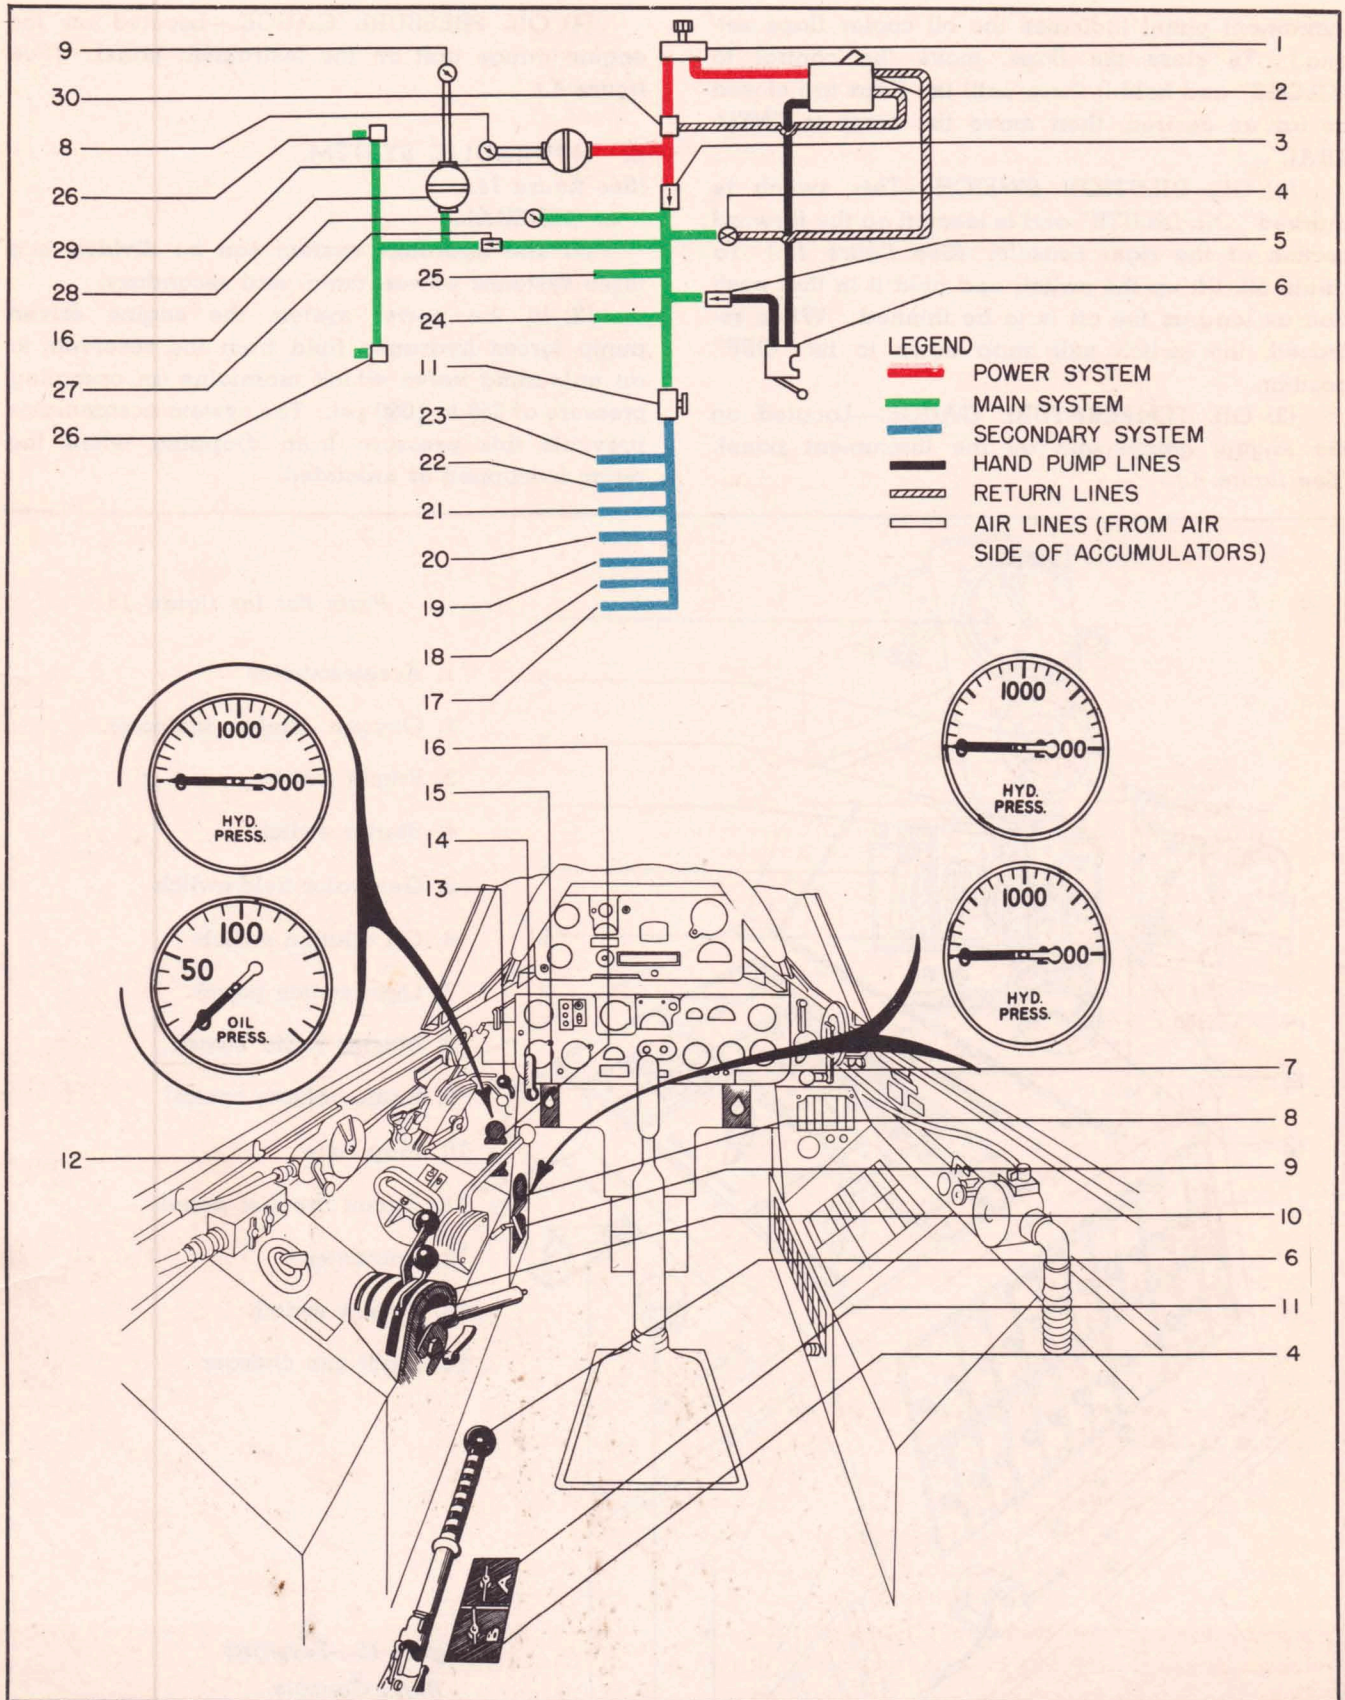

Figure 14—Hydraulic System Diagram
Parts list for figure 14.
(See figure 14.)
(1) **SHUT-OFF VALVE.**—The valve on the pilot's floor left of the seat, marked "A", is the shut-off valve (see figure 14), used to isolate the secondary system from the main and power systems. This valve is in open position during normal operation.
(2) **BY-PASS VALVE.**—This valve, designated "B" (figure 14.) is immediately aft of the "A" valve. The pressure in the system can be dumped by opening this valve; therefore, it is closed during normal operation.
(3) **HYDRAULIC HAND PUMP—PILOT'S COCKPIT.**—The hand pump is on the left side of the pilot's seat. (See figure 14.) It is used to create pressure in the hydro system for tests of landing gear, flaps, gun chargers, bomb doors, windfold, etc., operation when the engine is not running. It is also used for emergency operation during flight (see Section IV, paragraph 6).
(5) **GAUGES.**—On the forward inboard face of the left console are two gauges, the system accumulator air gauge (see figure 14), and the brake accumulator air gauge (see figure 14), which are connected to the air sides of the accumulators. A third gauge indicating system pressure (see figure 14), is mounted to the left of the instrument panel and should normally read from 850 to 1050 psi. The pressure gauge for the automatic pilot is located below and to the right of the system pressure indicator. (See figure 14.)